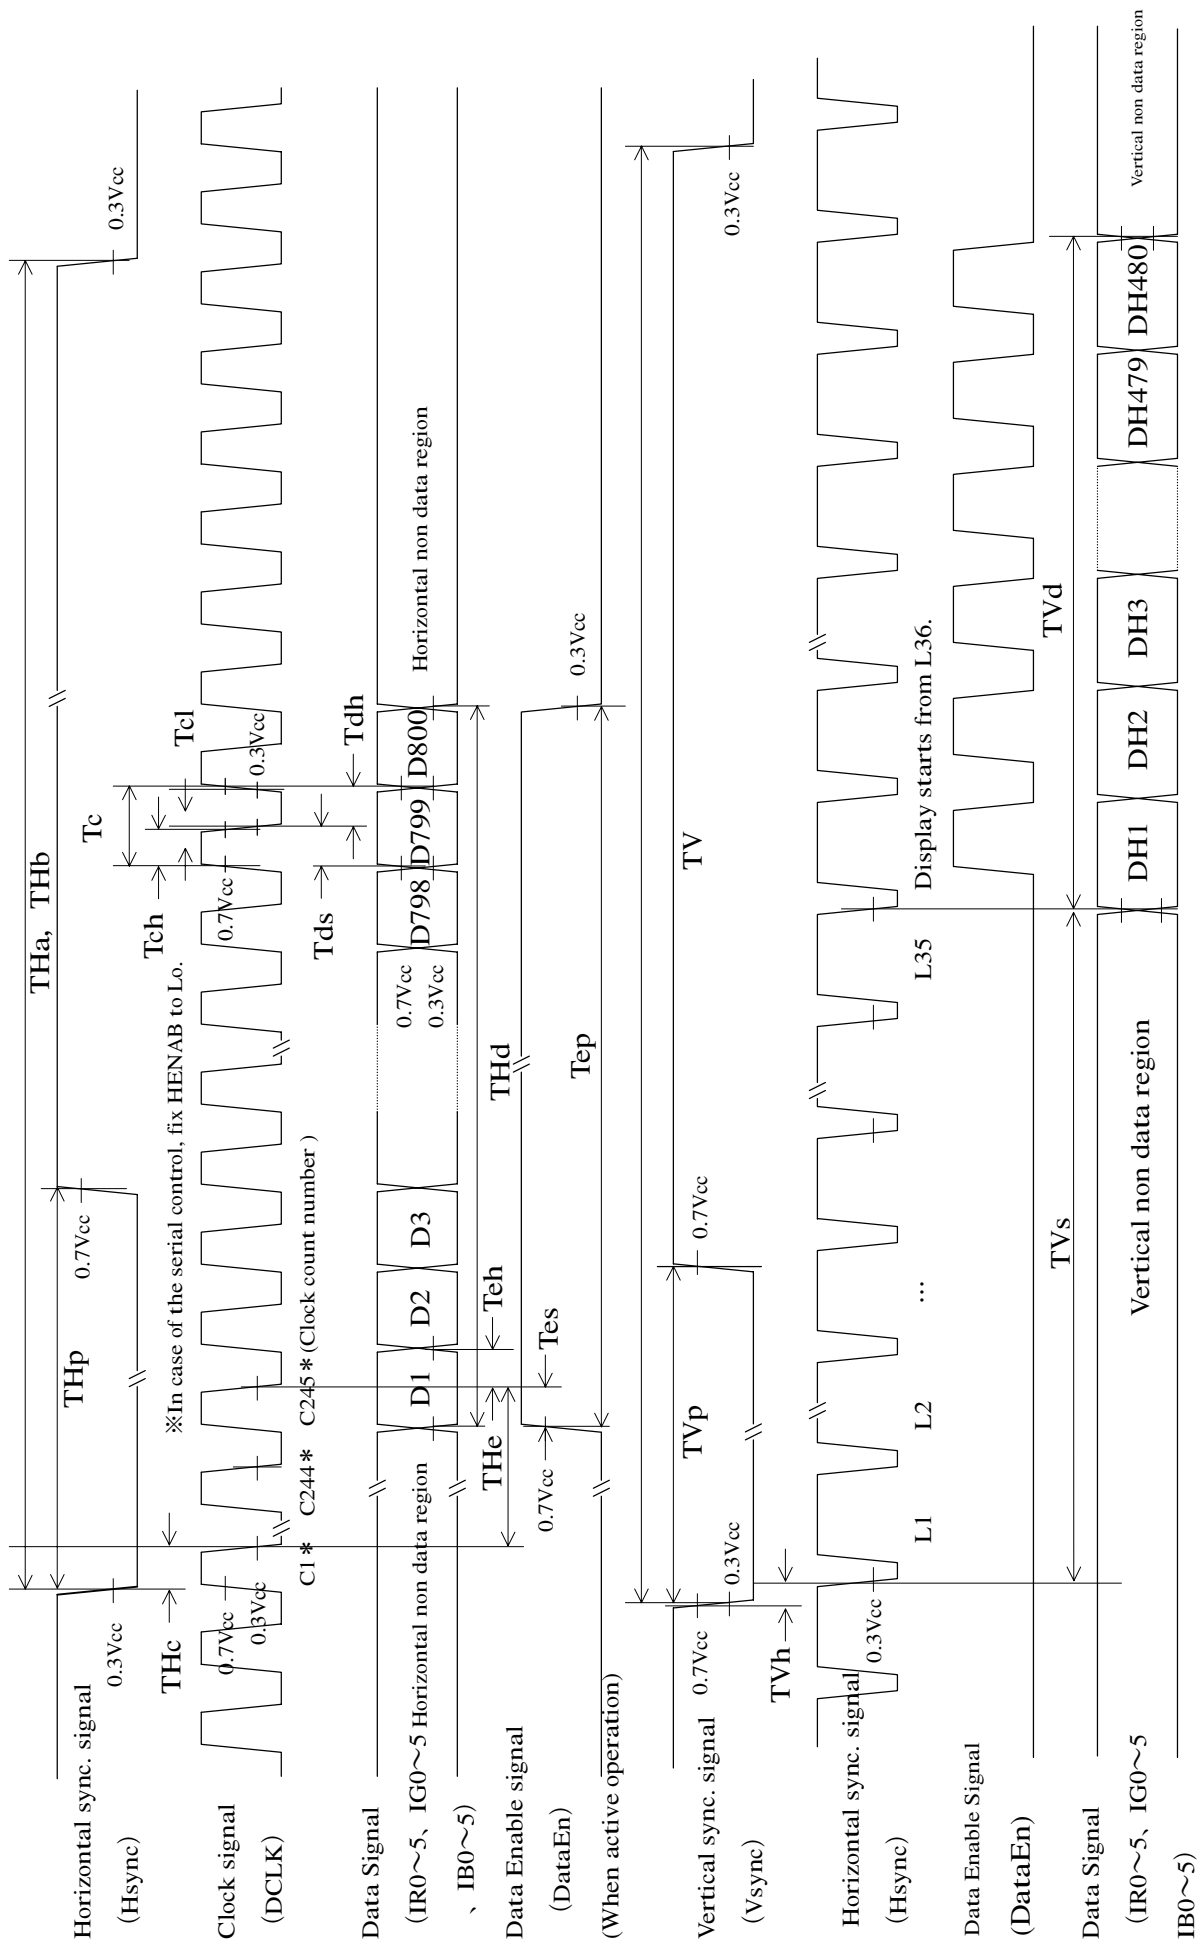

Fig. 2: Input timing chart when setting the Horizontal display starting position by entering DataEn signal
[Note4-3] The horizontal display starting position is settled in accordance with a rising timing of DataEn signal. (Refer to P.9, Fig. 2)
• Refer to P.9 Fig.2 and P.10 Fig. 3 for the input timing chart.
Although, DataEn signal is recommended to input actively at every Horizontal period in the Vertical period, it has no problem to fix to Lo for the Vertical returning period and to input actively at every Horizontal period in the Vertical display period. (Refer to P.9 Fig. 2)